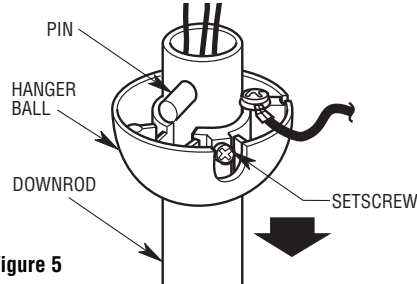

Figure 5
- 12. Remove the hanger ball by loosening the setscrew in the hanger ball until the ball falls freely down the downrod (Figure 5). Remove the pin from the downrod, then remove the hanger ball. Retain the pin and hanger ball for reinstallation in Step 16.